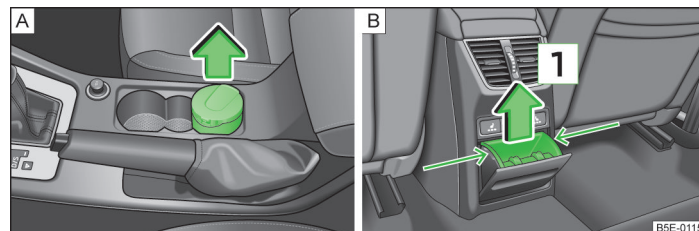

Fig. 64 Ashtrays: front/rear
- Pull out the ashtray » Fig. 64 - A in the direction of the arrow.
- Grasp the insert in the area marked with the arrows and remove it in the direction of the arrow **1** » Fig. 64 - B.